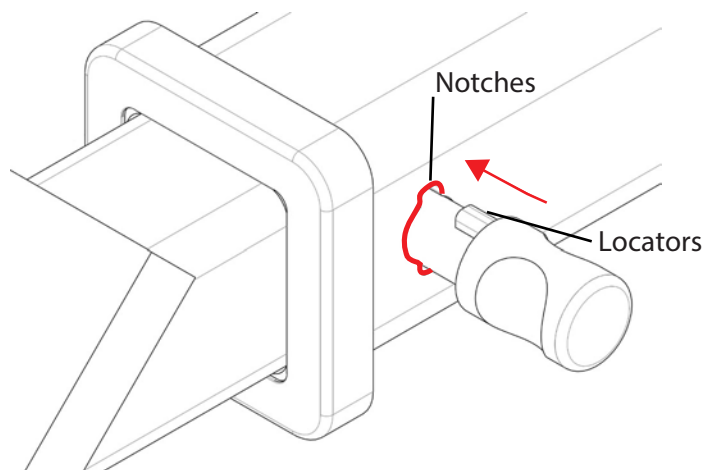

Fig 3. Silent Anti-Rattle Hitch Pin orientation
8. Cut bumper push out window as per diagram see fig 3.
Insert HITCH PIN through hole in HITCHBOX and hole in TBM SHANK; ensure the LOCATORS are inserted into the NOTCHES in the HITCHBOX (Fig. 3).